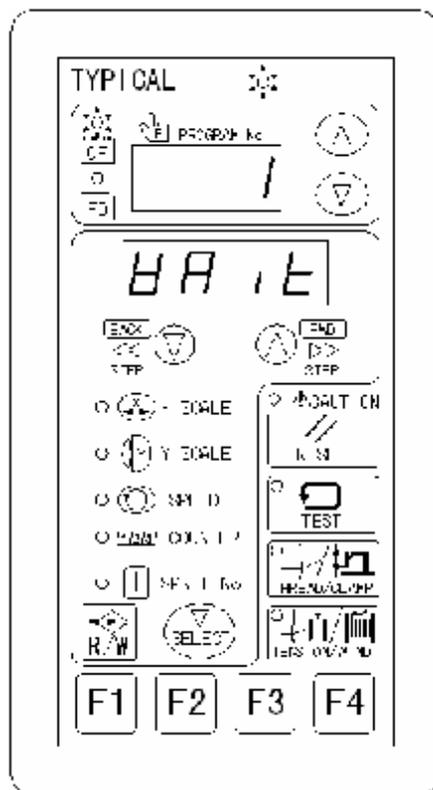
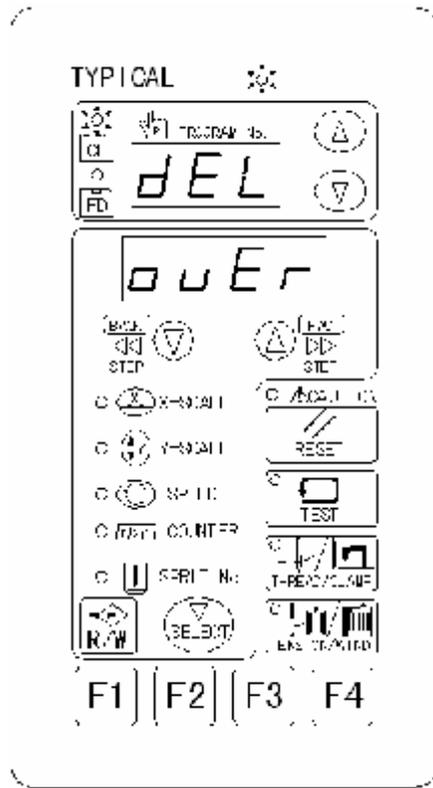

Fig. 6-25
Fig. 6-26
3. When deletion is completed, press  key to exit pattern deletion interface; at this time, operation panel is as shown in Fig. 6-25. The controller arranges its memory automatically. After completion of arrangement, operation panel is as shown in Fig. 6-26 for one second, and return to sewing speed set-up interface.